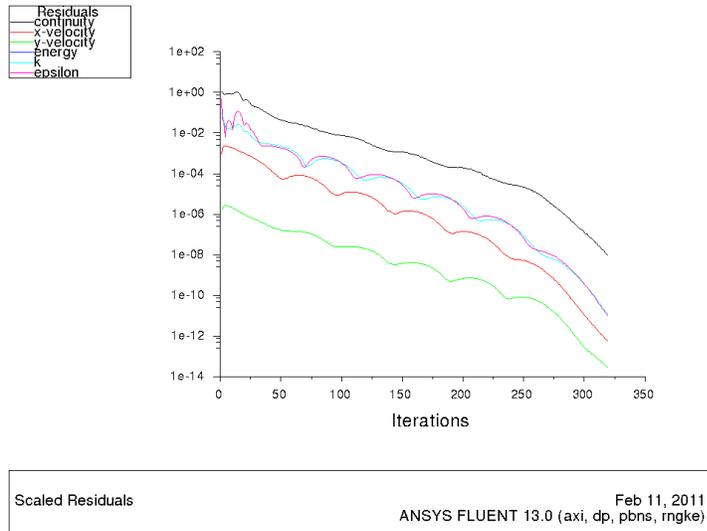

Figure 3: Residual Plot of the Single-Phase Flow Solution
*The solution converges in 320 iterations approximately (see Figure 3).*